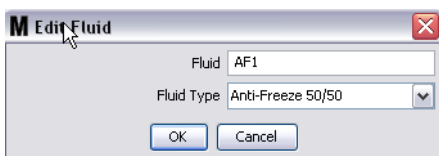

FIG. 70
7. Click the Modify button to display the Edit Fluid screen shown in FIG. 70. When you have finished making changes, click OK to close the screen and save the changes.